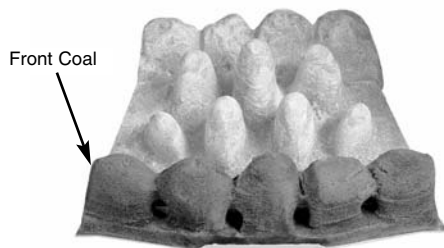

Fig. 27
3. Position the front coal on the front coal retainer, making sure that the back edge is pushed up against the front of the burner strip (Fig. 27).